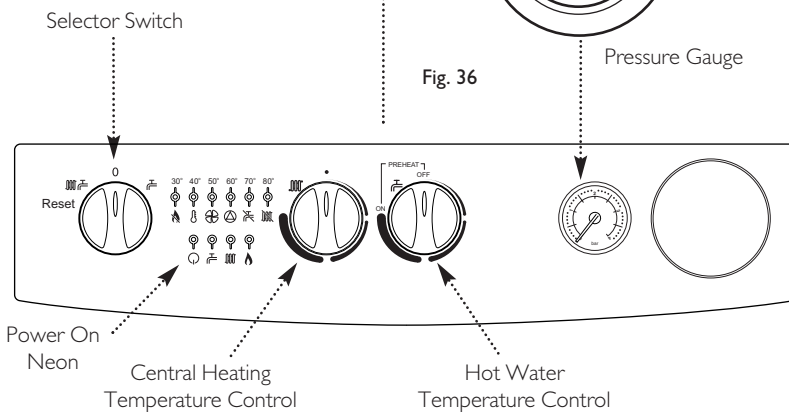

Fig. 37
2. Set the hot water and central heating temperature controls to maximum and the selector switch to the OFF position (Fig. 37).
6. Turn the selector switch to the Central Heating and Domestic Hot Water position (OFF). The power ON neon (ON) will illuminate (Fig. 37).